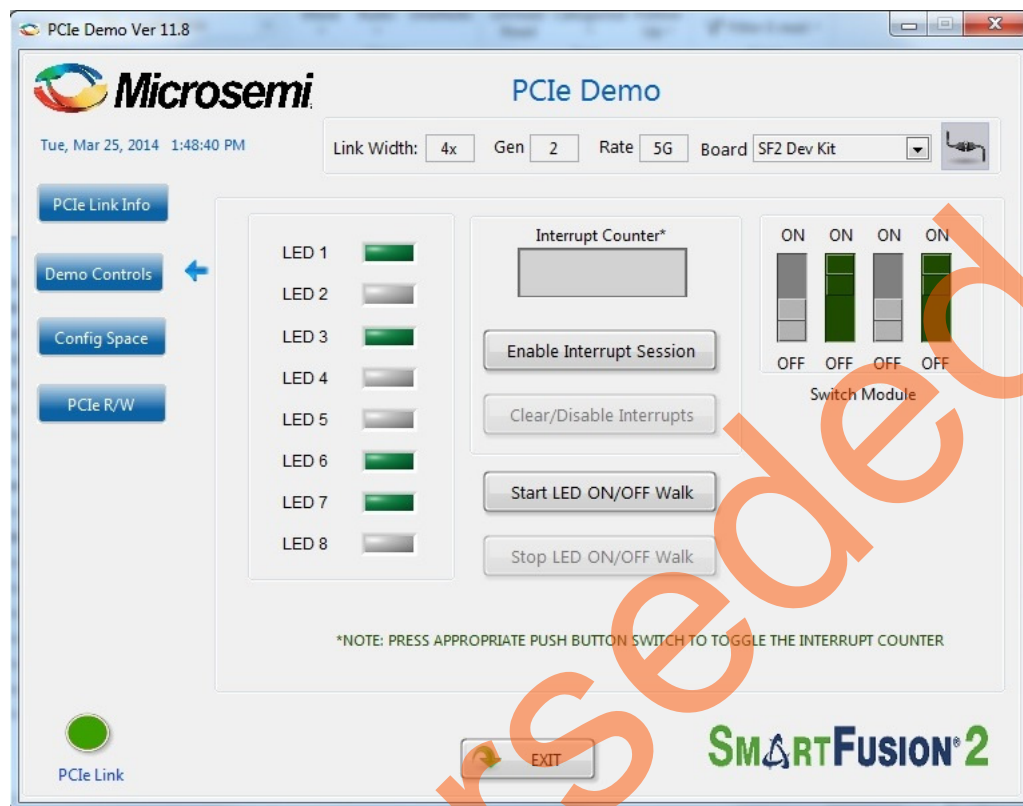

Figure 65 • Demo Controls
- Clicking **Demo Controls** in the GUI displays the LEDs options and DIP switch positions as shown in Figure 65.